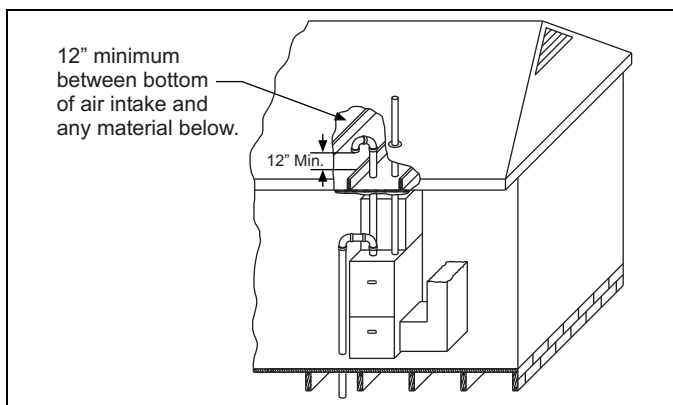

FIGURE 38: Attic and Crawl Space Combustion Air Termination
- 3. **VENTILATED COMBUSTION AIR:** Combustion air is supplied through a PVC or ABS pipe that is connected to the PVC coupling attached to the burner box and is terminated in a ventilated attic or crawl space. The combustion air and the vent pipes are not terminated in the same atmospheric zone. Refer to Figure 38 for attic and crawl space termination. Only the combustion air intake may terminate in the attic. The vent must terminate outside.
Refer to Figure 38 for required attic termination for the combustion air intake pipe. For attic termination, use two 90 elbows with the open end in a downward position. Be sure to maintain 12" (30.5 cm) clearance above any insulation, flooring or other material.